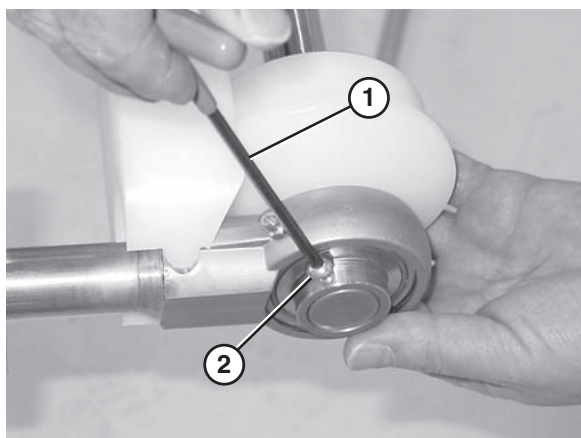

Figure 86
9. Use a hex wrench (**Figure 86, item 1**) to tighten the bearing shaft fasteners (**Figure 86, item 2**) to 54 in•lbs (6 N•m). Check after 24 hours of conveyor use.